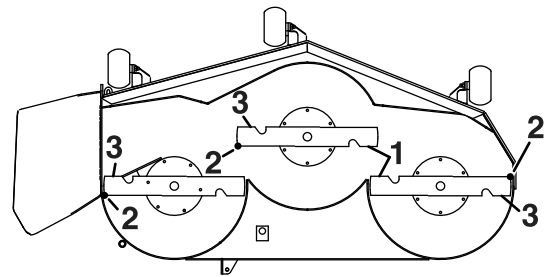

Figure 120
6. Measure between the blade tip and the flat surface (Figure 120). If the measurements are not within 5 mm (3/16 inch), adjust the leveling; continue with this procedure.
12. Carefully rotate the blades side to side (Figure 120).